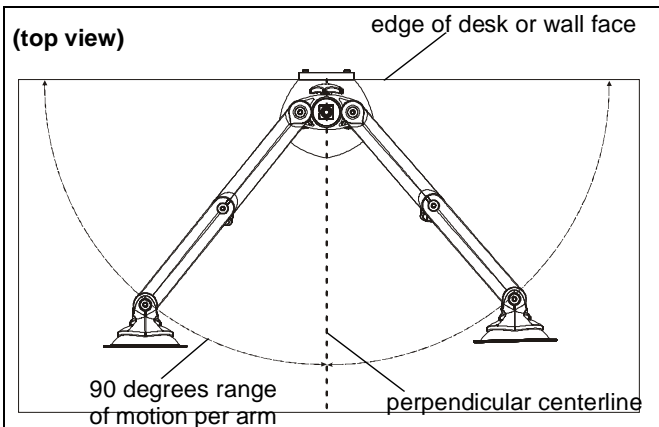

Figure 11
1. Adjust arm angles as desired within a 90 degree range from the edge of desk or wall and a perpendicular centerline of mount. (See Figure 11)